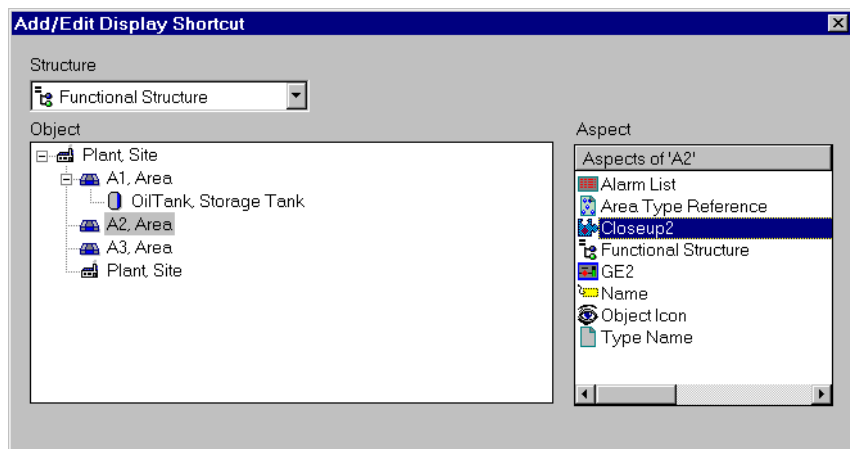

Figure 30. Add/Edit Display Shortcut Dialog Box
3. Select structure, object and aspect in the Add/Edit Display Shortcut dialog box, see Figure 30. Click **OK**, and the shortcut will be added to the Shortcut list.
4. A Display Shortcut will be displayed in the Display Bar, to the right of the other tools. See Figure 30.